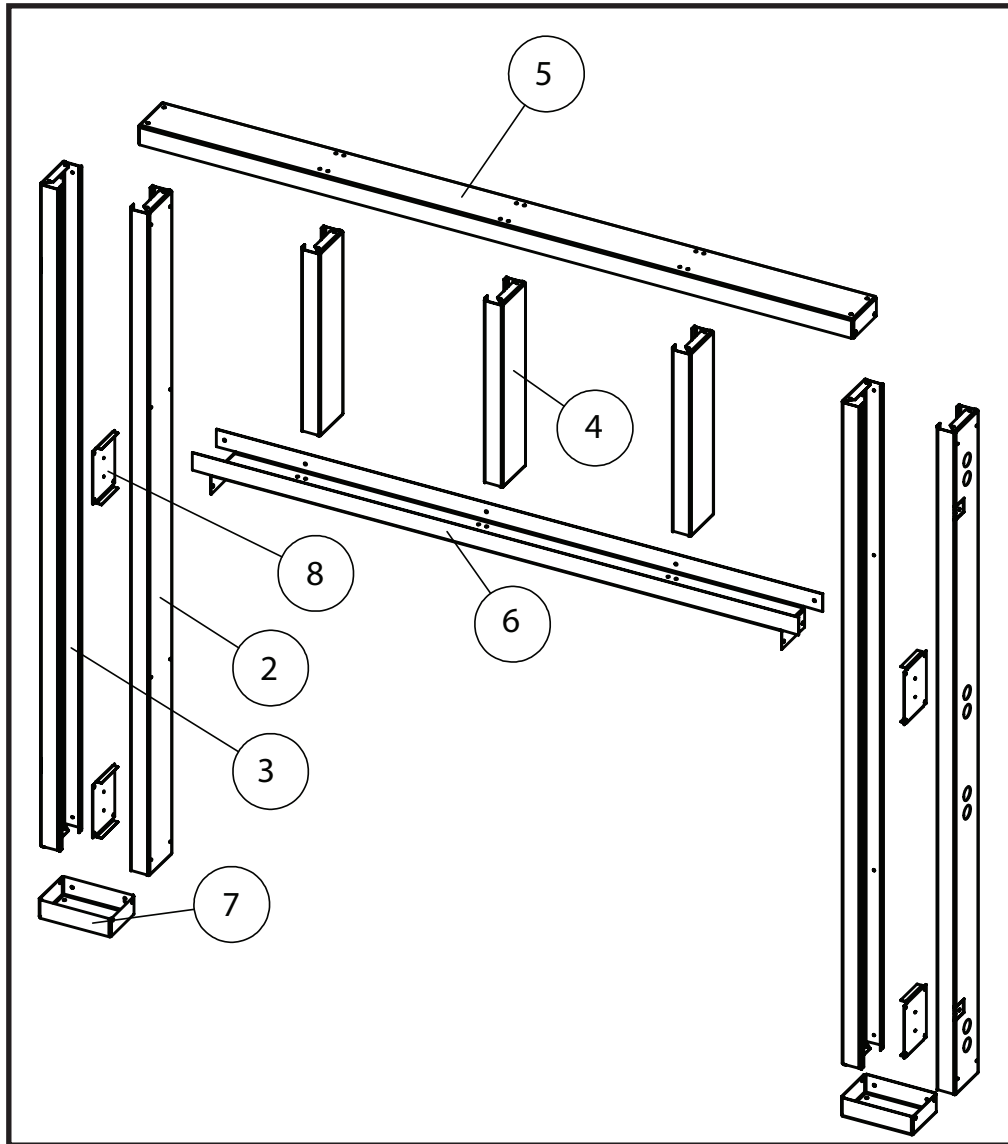

Figure 14: TC54 Steel frame assembly.
- Lay out the horizontal header stud (5) on a large flat surface. (Position all pieces on their narrow edges as shown in the illustration in (Figure 14).
- Position the three short, vertical center studs (4) perpendicular to the horizontal header stud, and align with the corresponding sets of screw holes. Fasten with the screws (1) provided.
- Position the shorter horizontal plate stud (6) at the bottom end and perpendicular to the vertical center studs (4). Align the bottom ends of the vertical center studs to the corresponding sets of screw holes and fasten with the screws provided.